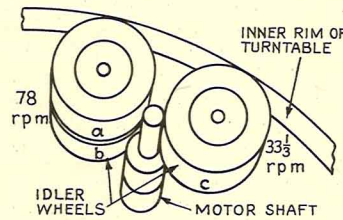

Figure 9. Turntable drive.
## 1. MAIN DRIVE (fig. 9).
**a. General.** "Wows" are usually due to faulty adjustment of the idler wheels or to faulty idler wheels. Check as follows: lift the turntable from the bearing well (7). Push the speed shift handle to the 78 rpm position. Push the 33 1/3 rpm idler wheel counterclockwise so as to engage the 78 rpm idler wheel with the motor pulley (fig. 9). If the drive is out of adjustment it will be noticed that with moderate pressure the 78 rpm idler wheel rises on its spindle until it touches the spring clip (10). If this is so, the idler spindle should be bent slightly *towards* the turntable rim and the motor pulley. The same test should be applied to the 33 1/3 rpm idler wheel by engaging the speed shift handle in the 33 1/3 rpm position and pushing the 78 rpm idler wheel in a clockwise direction. If the idler wheel rises on its spindle until it touches the spring clip, the idler spindle should be bent slightly *away from* the turntable rim and towards the motor pulley.
(1) Loosen the locknut and back off by several turns the adjustable 78 rpm shift stop stud (1).
(2) Push speed shift handle to 78 rpm position.
(3) Check rpm with stroboscope (furnished with equipment) and handy lamp. When correct speed is obtained push handle down to lock position.
(4) Turn the shift stop stud up to the speed shift handle and lock in this position by tightening the locknut.
(5) Loosen the locknut and back off by several turns the 33 1/3 rpm shift stop stud and push speed shift handle to the 33 1/3 rpm position.
(6) Follow steps (3) and (4).